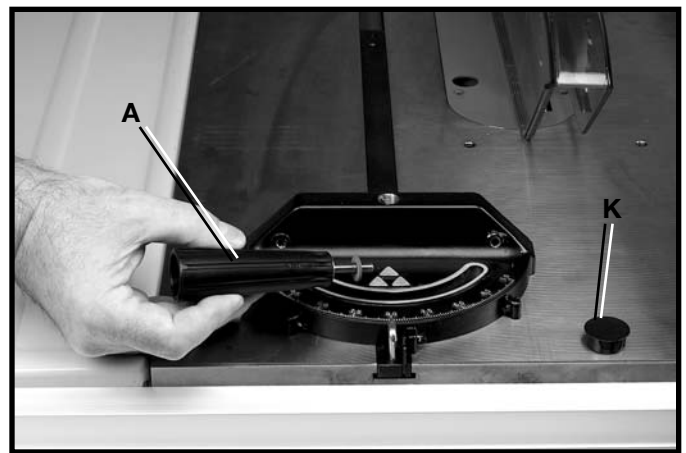

Fig. 49
Insert the miter gage bar into the miter gage slot and assemble the washer and lock handle (A) Fig. 49, to the miter gage bar as shown. Insert cap (K) into top of handle (A).